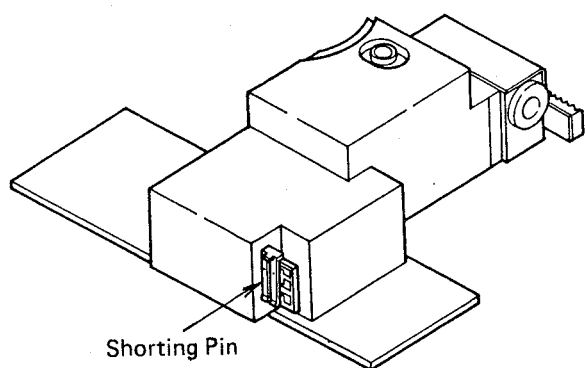

Figure 23
1. When mounting a new laser pickup, first connect the connector and leads and then remove laser diode protection shorting pin on P.C. Board. (Refer to Figures 23 and 24.)